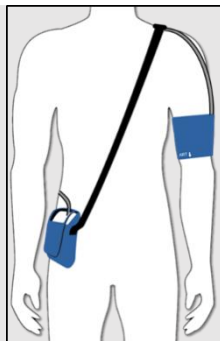

Fig 1: Mobil-O-Graph®
- Ensure the correct positioning of the shoulder strap/waist belt and cuff tube, also see Fig. 1.
- The tube connection on the cuff must face upwards, see Fig. 1.